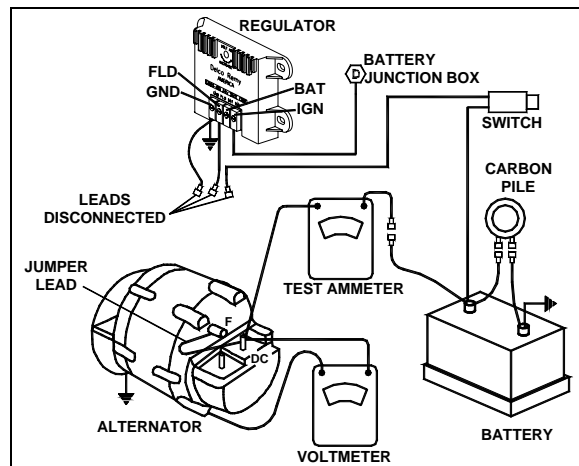

FIGURE 29: REGULATOR VOLTAGE TEST (UNDERCHARGED BATTERY)
6. See figure 29 for wiring connections.
- B) By removing any retaining screws involved and unsoldering the connections. When resoldering, limit solder time to a minimum as excessive heat may damage the printed circuit board and component parts. However good soldered connections are essential for satisfactory operation. A resin core 63% tin 37% lead solder with a 360 °F (182°C) melting point is recommended along with a soldering iron rated at 50 watts or less. Use extreme care to avoid overheating. Before checking the printed circuit board, remove transistor TR1, which must be checked separately. Connect the ohmmeter as shown in figure 29, and then reverse the ohmmeter leads to obtain two readings on the same component. Use the middle scale on scale-type meters on which the 300 ohm value should be within, or nearly within, the middle third of scale.